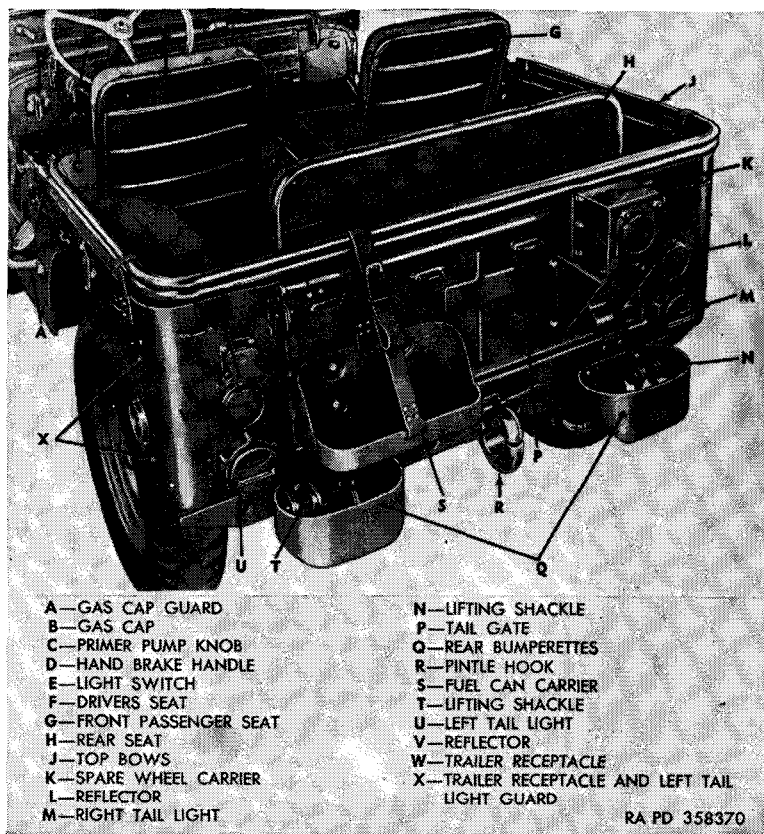

Figure 103. Body—left rear view.
b. Exterior of Body (fig. 103). The exterior of the vehicle has a fuel can carrier (S) and spare wheel carrier (K) mounted on the rear of a hinged tail gate (P). A gas cap guard (A), top bow retaining brackets, right and left door rod retainers, folding windshield, reflectors, foot-man loops, rear view mirrors, trailer receptacle, and an axe and shovel bracket are also mounted on the exterior of the vehicle.
c. Interior of Body (figs. 103 and 104). The interior of the body contains two tubular frame front seats and a rear seat, a tool compartment located under the right front seat, a fuel tank located under the driver's seat, an instrument cluster, and a fuel primer pump is located on the dash. A rifle holder is mounted on the lower panel of the windshield and a radio receptacle is located to the right of the right front seat. Ignition and light switches are located on the dash.
b. Seat Frame Assemblies (fig. 103). Two tubular front and one tubular rear seats provide seating space for four people. The driver seat frame is secured to the body by four cap screws. The front passenger seat is secured with two hinge pins; the rear seat by a pivot tube secured to each side of the body. Both front and rear seats are replaceable and repairable. Removal instructions are contained in
e. Tail Gate (fig. 103). A removable tail gate is hinged to the rear of the body and has an extra fuel can carrier and a spare wheel carrier mounted on the outside. Removal instructions are contained in paragraph 158.